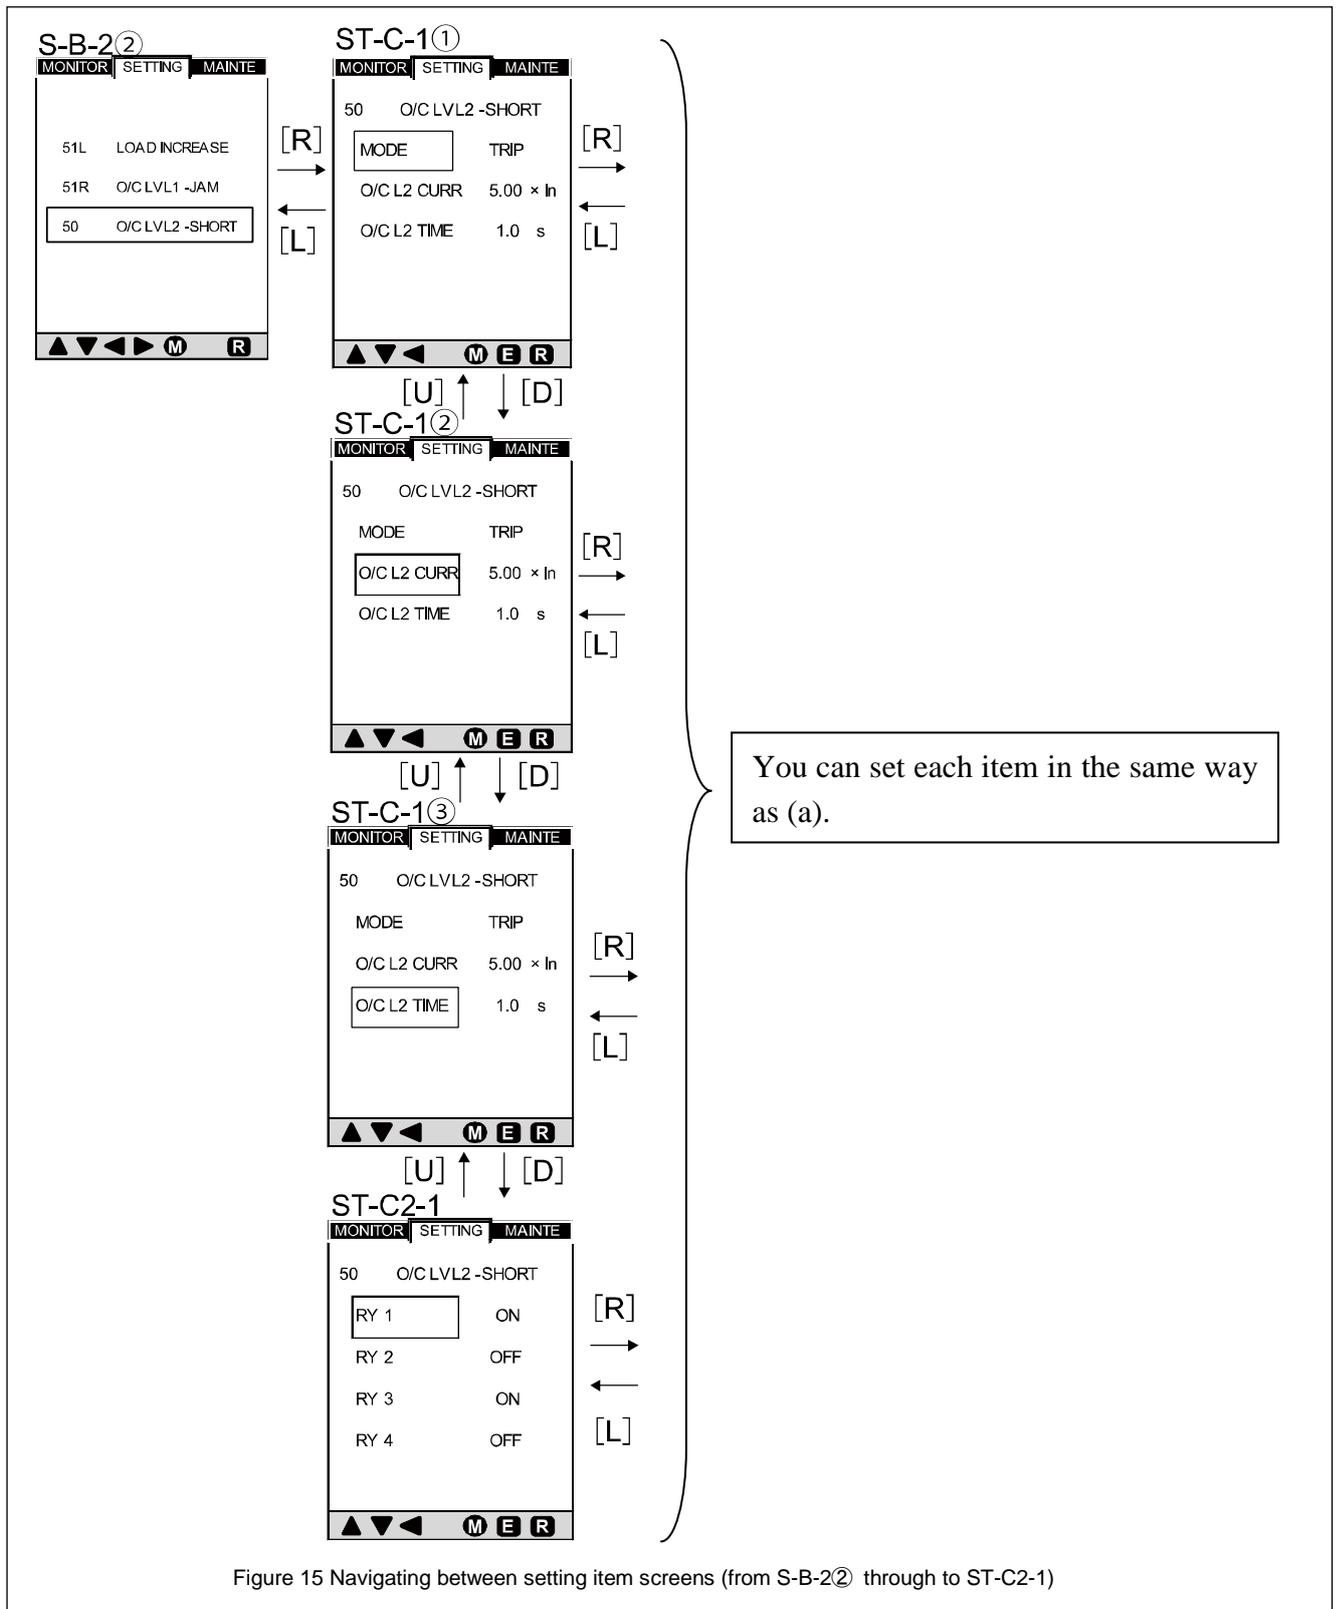

Figure 15 Navigating between setting item screens (from S-B-2② through to ST-C2-1)
Figure 15 shows how to navigate between setting item screens (from S-B-2② through to ST-C2-1). See Table 10 for items that are actually displayed on the screen.